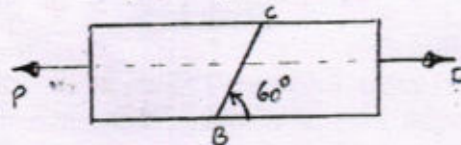

Fig.Q3(b)
- b. A rectangular bar of cross section area of 11,000 mm² is subjected to a tensile load 'P' as shown in Fig.Q3(b). The permissible normal and shear stresses on the oblique plane BC are given as 7 N/mm² and 3.5 N/mm² respectively. Determine the safe value of 'P'. (06 Marks)